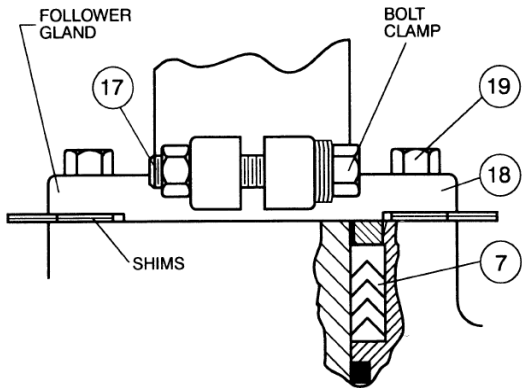

FIGURE 10. FRICTION ADJUSTMENT
DIRECT NUT FRICTION ADJUSTMENT: As shown in Figure 10, valves with direct nut actuators have a flanged packing follower (18) above the packing (7) to hold the valve in the open or closed position. If the valve is difficult to operate or does not maintain its set position, adjust the clamp bolt (17) to provide sufficient friction to hold the valve in position. If the valve is equipped with a hand lever, the setting should allow the valve to be operated with about 80 pounds of force on the end of the pipe handle.